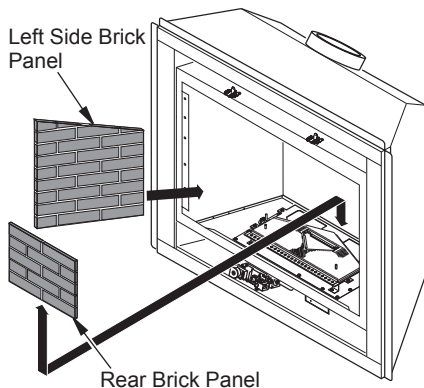

Figure 40 - Installing Rear Brick Panel
8. Install rear brick panel first. Rest bottom edge of panel on back edge of burner assembly (see Figure 40).
- between burner assembly and side of firebox (see Figure 40).